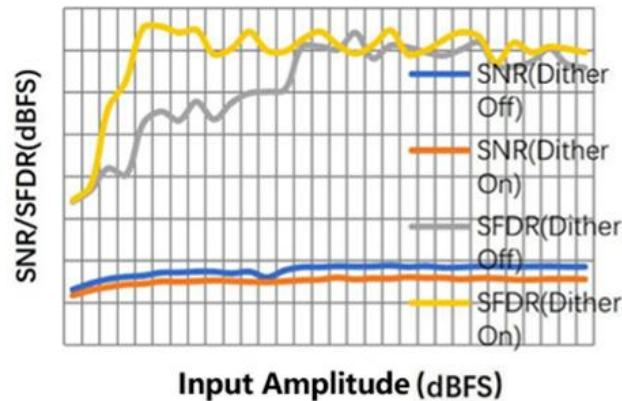
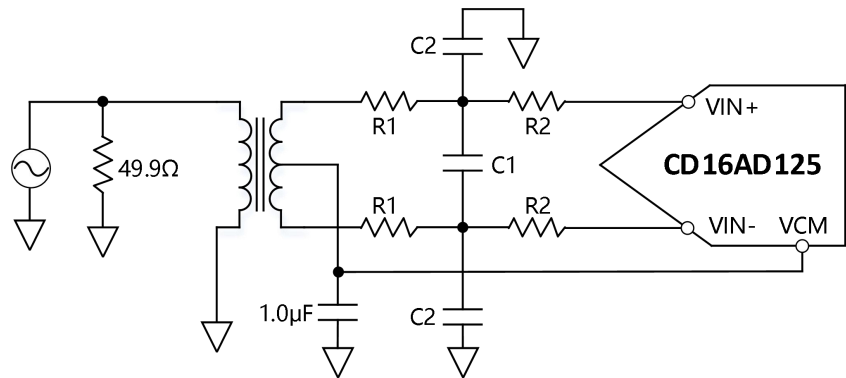

Figure 13 SNR/SFDR vs. Input Amplitude($f_{in}=30.1\text{MHz}$)
Figure 14. Differential Transformer-Coupled input Configuration
The ADC analog inputs are not internally dc biased. In accoupled applications, the user must provide this bias externally. An on-chip, common-mode voltage reference is available from either the V_{CM} pin or autonomous setting if $V_{CM} = 0.5 \times AVDD$ (or 0.9 V) are met. When the common-mode voltage of the analog input is set by the V_{CM} pin voltage (typically $0.5 \times AVDD$). The V_{CM} pin must be decoupled to ground by a 0.1μF capacitor (Figure 13, Figure 14)
1. The input configuration uses differential transformer coupling. An example is shown in Figure 13. To bias the analog input, the V_{CM} voltage can be connected to the center tap of the secondary winding of the transformer.
2. The input configuration uses differential double balun coupling (see Figure 14). In this configuration, the input is ac-coupled, and the CML is provided to each input through a 33 Ω resistor. These resistors compensate for losses in the input baluns to provide a 50 Ω impedance